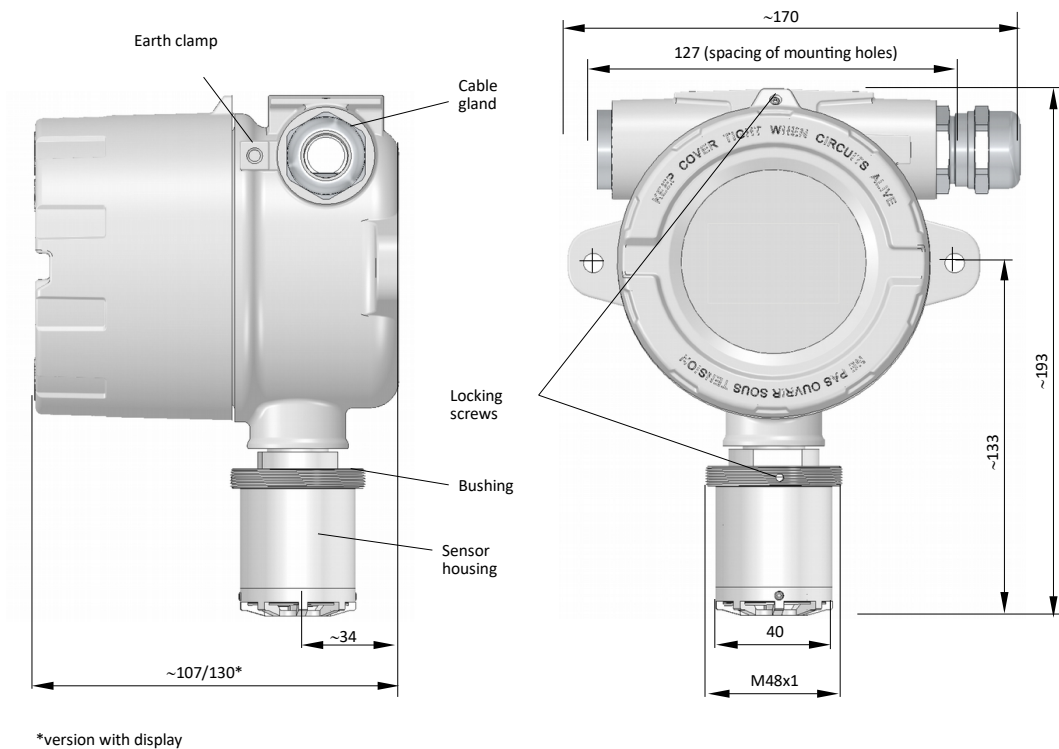

Figure 4: The construction of the device and its dimensions
- ✓ The only position for the detector operation is the position with its measuring head looking down (see Figure 4).